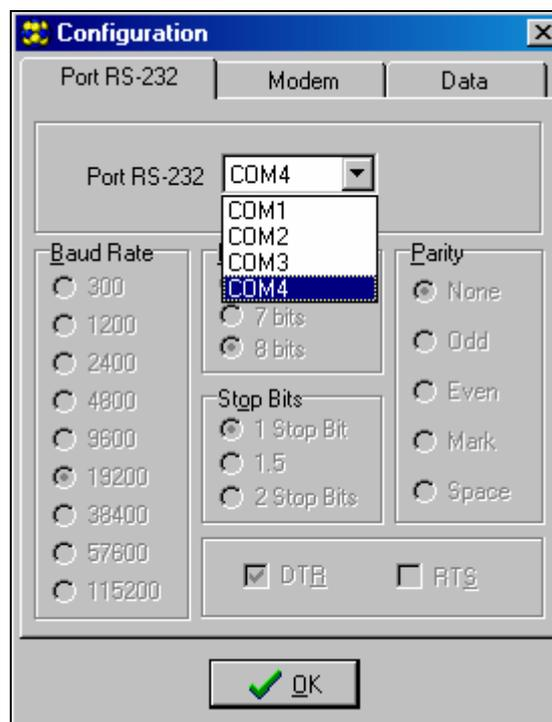

Fig. 9. "Configuration" window.
4. Indicate the computer port to which the module is connected (see: Fig. 9).